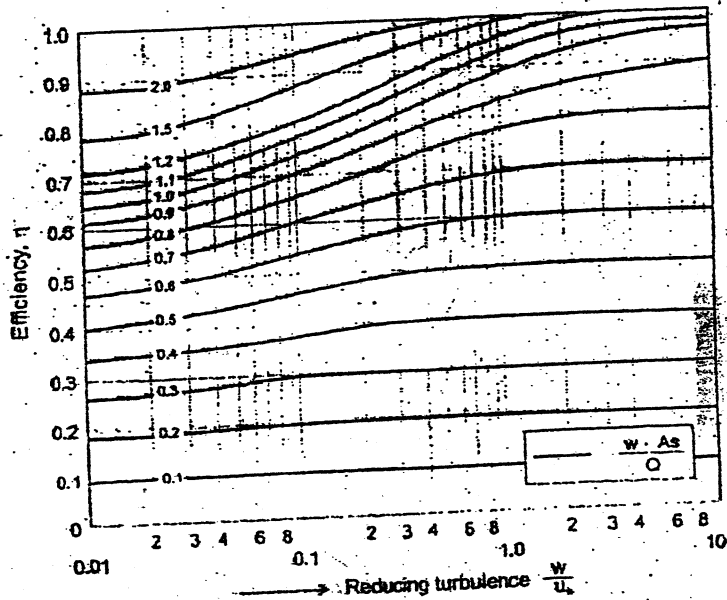

Figure 3: Camps Diagram
- b) Design the settling basin from the particle size and concentration approach and calculate the trap efficiency from the following data. (Refer figure 3 & 4) [8]